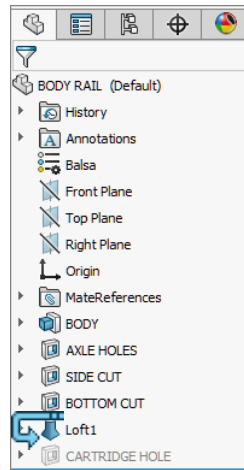

Fig. 59
Step 1. In the Feature Manager move the suppressed **CARTRIDGE HOLE** below Loft1 feature, **Fig. 59**. To move the feature, drag **CARTRIDGE HOLE** down, when the cursor  is over Loft1 - release.